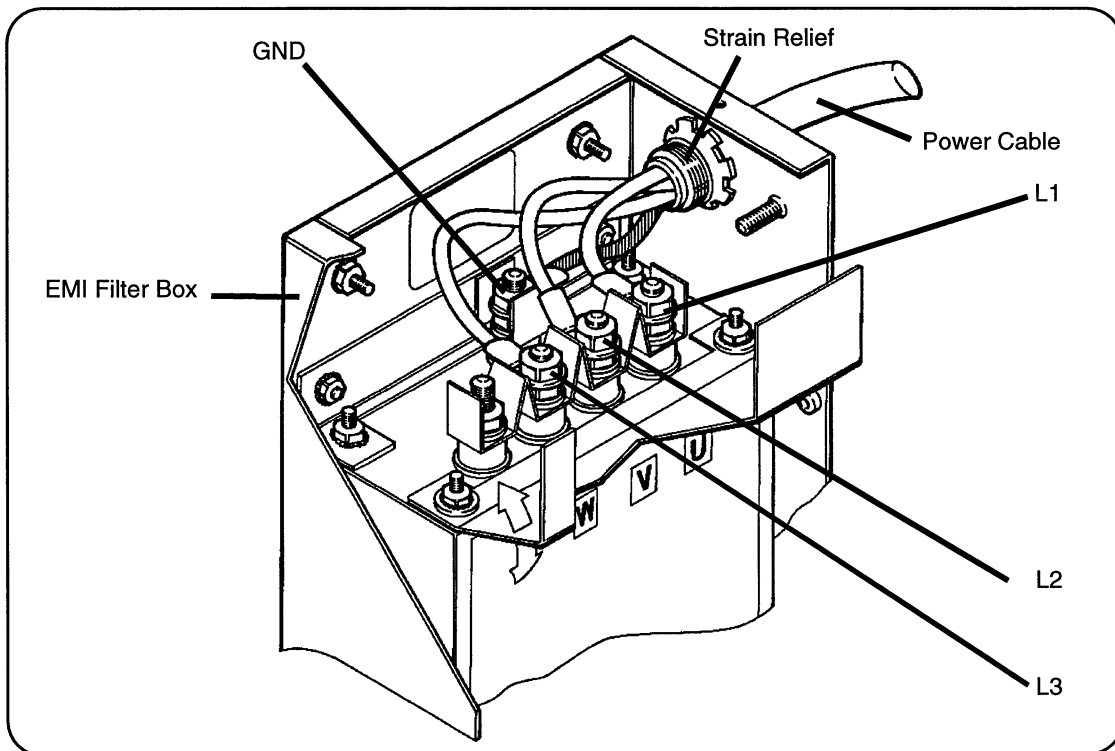

Figure 3-2 MAX100 Primary Power Connections
4. Connect leads L1 to U, L2 to V, and L3 to W terminals of the filter (see Fig. 3-2). Ensure that all connections are tight to avoid excessive heating.